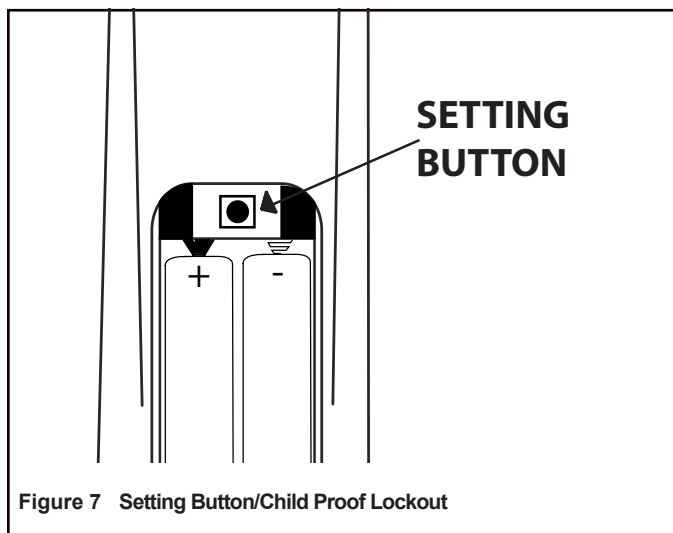

Figure 7 Setting Button/Child Proof Lockout
1. Remove the battery cover on the back of the transmitter and locate the "setting button" at the top center of battery compartment (see Figure 7).
1. Press and hold in the “setting button” for 5 seconds. The letters CP will display on the LCD screen (see Figure 7). This prevents the activation of fireplace. When any function button is pressed ON/OFF etc. the letter CP will display on the LCD screen.